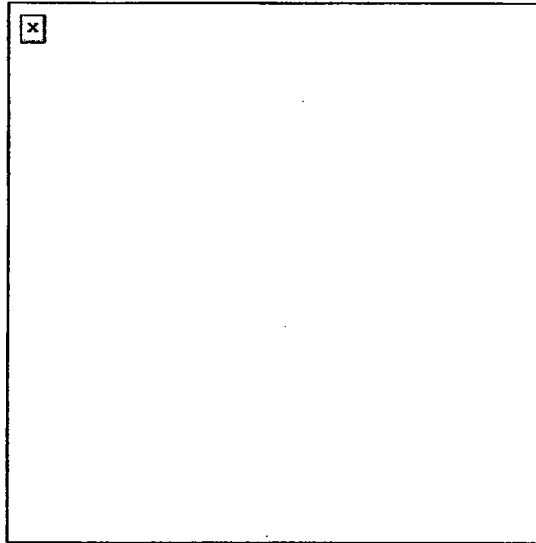

Figure 191-381-1370-26
- (1) Extend your right arm parallel with the ground, palm down, fingers extended and slap the ground the same time as your left foot hits.
- (2) Hit the ground just behind the right knee, with the sole of your left foot at the same time your right arm hits.
- e. Make sure your left shoulder and spine do not hit the ground (Figure 191-381-1370-26).